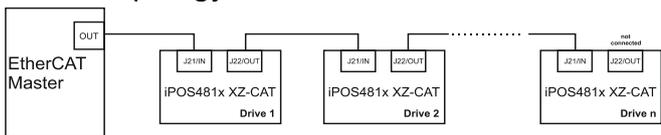

Figure 34. EtherCAT network linear topology
- Linear, when the J7 / OUT port of the last drive in the chain remains not connected. Master is connected to J6 / IN port of the first drive; J7 / OUT of the first drive is connected to J6 / IN of the following drive; J7 / OUT of the last drive remains unconnected. See **Figure 34. EtherCAT network linear topology** for a visual representation of the linear topology.